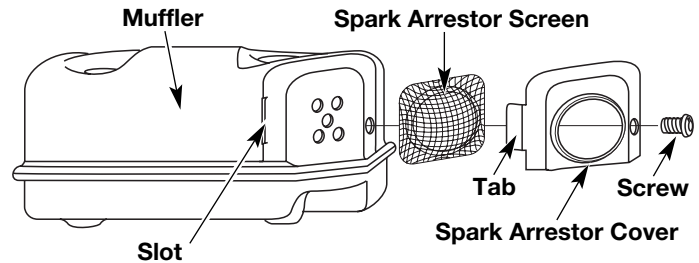

Fig. 74
2. With a flat blade screwdriver or Torx T-20 bit, remove the screw attaching the spark arrester cover to the muffler (Fig. 74).